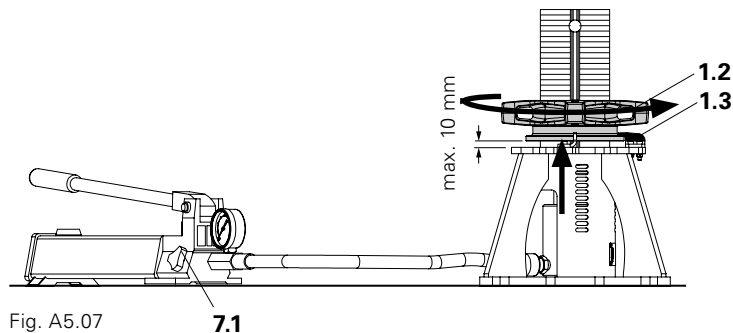

Fig. A5.07
3. Turn the adjusting nut upwards by hand in a counter-clockwise direction until the locking nut rests against the hold-down device. (Fig. A5.07)